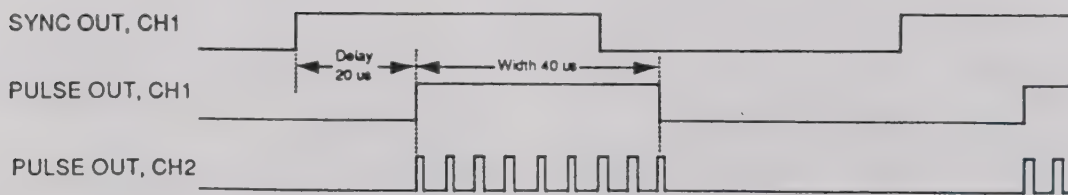

Figure 3-22. Channel 1 Width Signal to STRIG Bus
12. Observe that channel 2 is now gated "on" by the width signal from the channel 1. Refer to figure 3-22 for timing relationships.